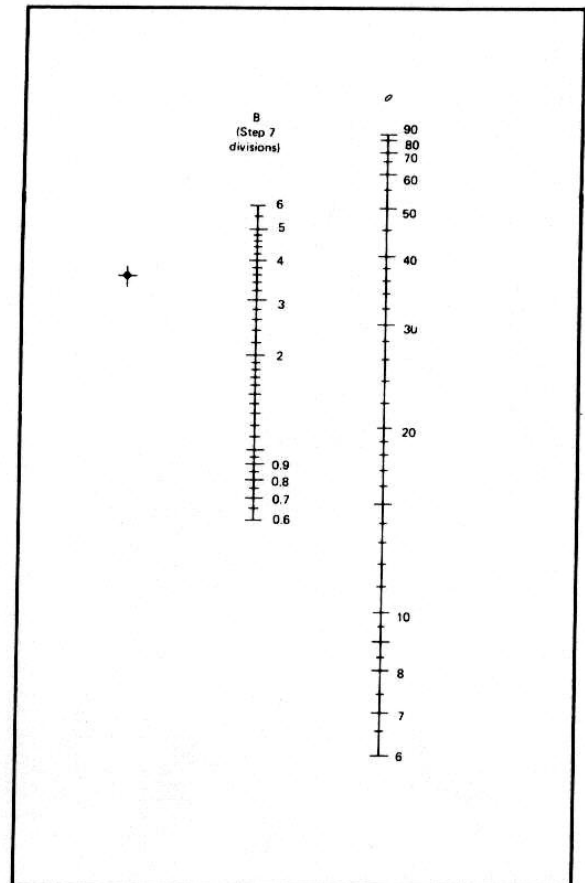

Figure 2-21.
10. The sine-to-angle conversion can be accomplished by using trig tables or a trig calculator. However, if the sine is between 0.1 and 1.0, you can use the Figure 2-21 nomograph. Simply lay a ruler on the nomograph so its edge passes through the cross mark and the number of divisions measured in Step 7 (B dimension). When this is done the edge will also intersect the phase-angle column.